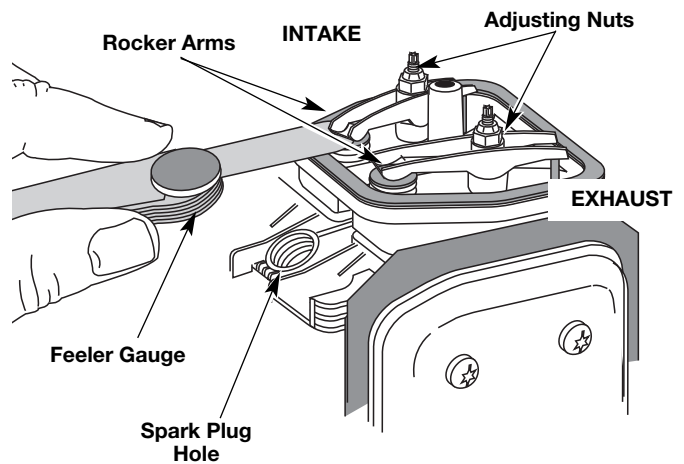

Fig. 36
- The piston is at the top of its travel while looking in the spark plug hole (Fig. 36).
12. Slide the feeler gauge between the rocker arm and the valve return spring. Measure the clearance between the valve stem and rocker arm (Fig. 36 & 37). Measure both the intake and exhaust valves.
The recommended clearance for both intake and exhaust is .003 – .006 in. (.076 – 0.152 mm). Use a standard automotive .005 in. (0.127 mm) feeler gauge. The feeler gauge should slide between the rocker arm and valve stem with a slight amount of resistance, without binding. See Figures 36 and 37.